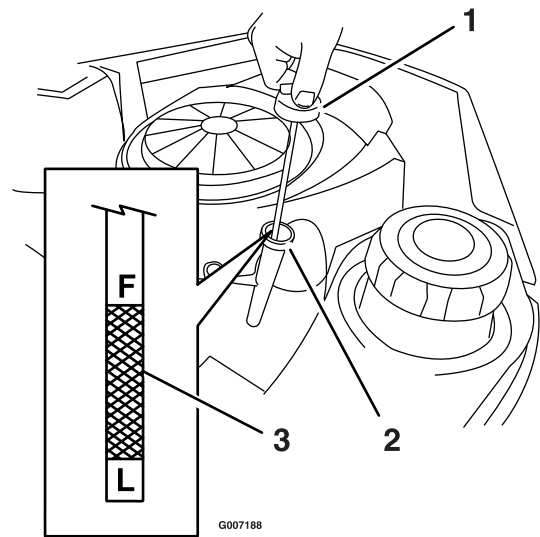
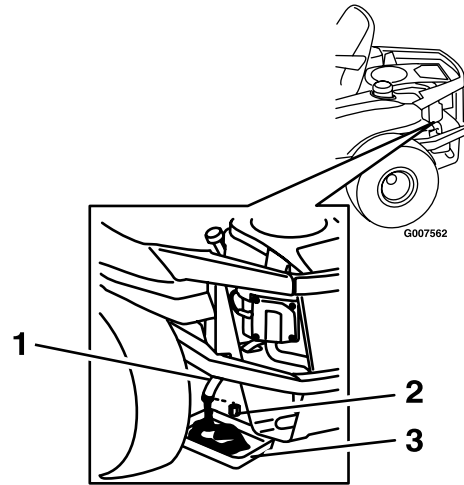

Figure 31
Figure 33
4. Pull and remove the oil fill cap/dipstick; wipe oil off. Reinsert the dipstick and push firmly into place (Figure 31).
5. Clean the area around the drain plug and on the machine frame. Place a pan underneath machine directly below the drain hole in the frame as shown in Figure 33
6. Remove the oil drain cap (Figure 33). Remove the oil fill cap/dipstick (Figure 31).
9. When the oil has drained completely, install the oil drain plug. Tighten the plug to 14 N-m (125 in-lb) torque. Wipe up any excess oil on the frame (Figure 33).
11. Install the replacement oil filter to the mounting pad. Turn the oil filter clockwise until the rubber gasket contacts the pad, then tighten the filter an additional 1/2 to 3/4 turn (Figure 33).
14. Check the oil level (Figure 31); refer to the Checking the Oil Level section.